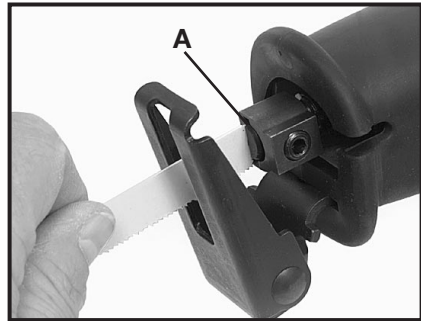
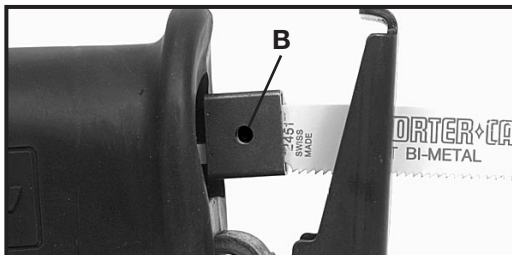

Fig. 6
Fig. 7
2. Insert the blade into the blade clamp until it bottoms, (A) Fig. 6. When the blade is properly positioned: the hole in the blade shank will align with the hole (B) Fig. 7, in the backside of blade clamp.